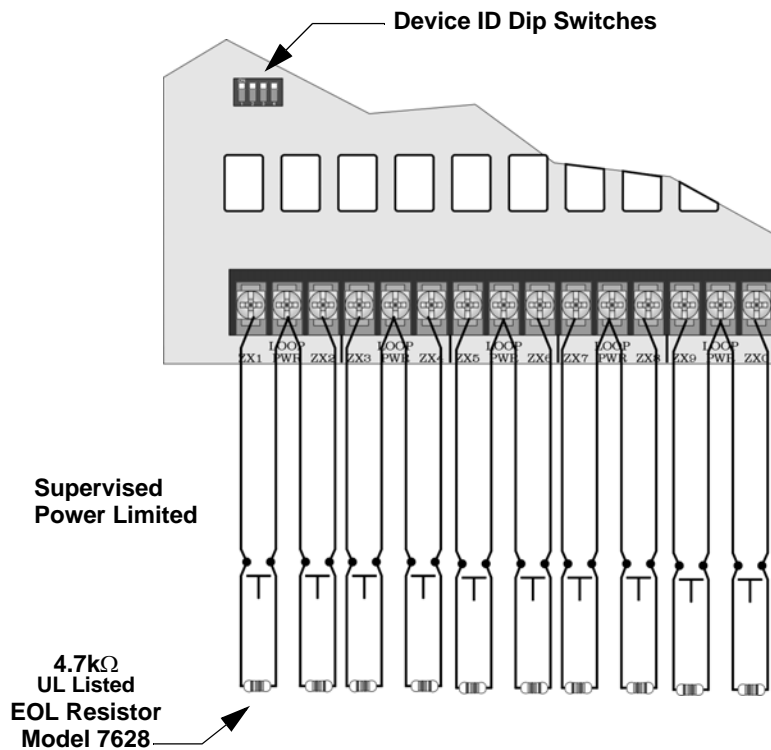
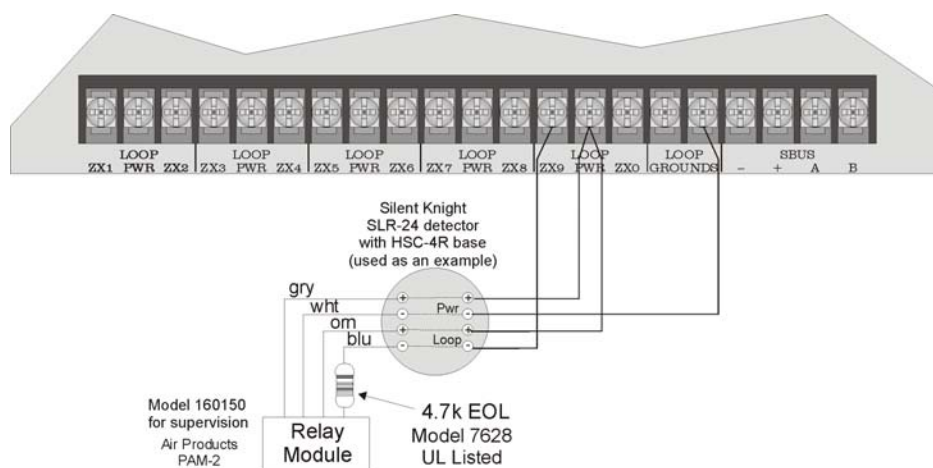

Figure 3-20 Model SK-5217 Two-wire Detectors
Figure 3-21 4-Wire Detector Connections
Figure 3-20 and Figure 3-21 shows how to wire detectors to the SK-5217. Use a 4.7k end of line resistor for each Class B circuit. The EOL must be wired in parallel with the normally open contact farthest from the panel. See Appendix A for a list of the smoke detectors that can be used with the SK-5217.
4. Wire the zone inputs to the zone expander as shown in Figure 3-20.
6. Wire the zone inputs to the zone expander as shown in Figure 3-20.